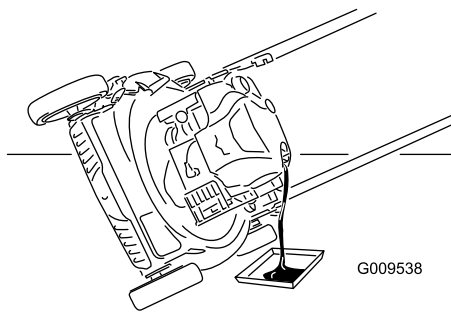

Figure 19
3. Tip the mower onto its side with the air filter up to drain the used oil out through the oil fill tube (Figure 19).